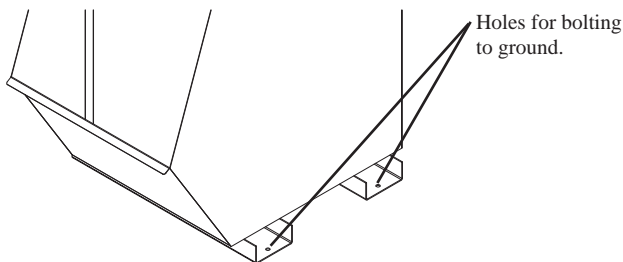

Fig. 1
4. Bolt the air cleaner to the floor in it's final location using the provided holes in the skid rails (Fig 1).